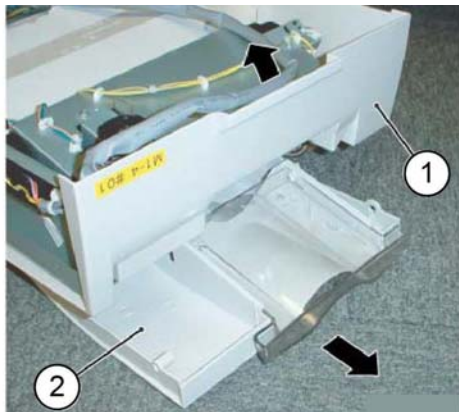

Figure 3 Top tray removal
7. Remove the top tray, **Figure 3:**
- a. Raise the integrated office finisher slightly in the direction of the arrow (1).
- b. Remove the top tray (2).